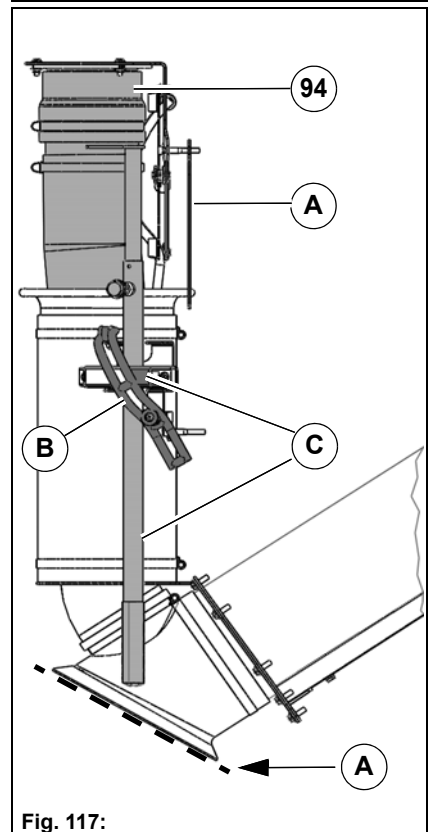

Fig. 117:
2. If necessary take the insert plate **Fig. 117-A** out from the holder and push it under the rubber seal.
3. Loosen the lock **Fig. 117-B** and pull the hand suction hose down and out from the holder.
4. Hold the hand suction hose with the handles **Fig. 117-C** and clean the surface. If required, adjust the handle rod to length with the locking bolt. After cleaning push the hand suction hose against the holder. The hand suction hose withdraws automatically due to the vacuum.